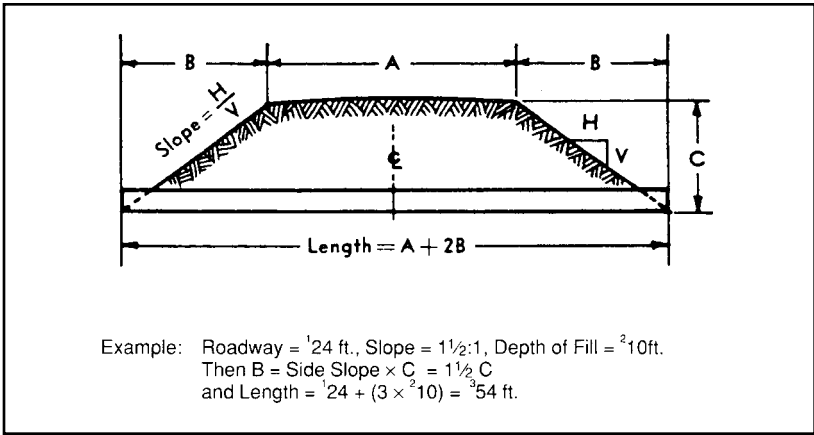

Figure 24. Computation of culvert length-flow line on flat grade.
Where culverts are to be installed at right angles to the road, their length can be computed by the method presented in Figures 24 and 25. Note that when culverts are on steep grades, their centers are offset with respect to roadway centerline.
**Note:** Superior numbers 1 to 6 in figures 24 and 25 are to be ignored in working the examples. They are to convert the examples to metric values as follows.